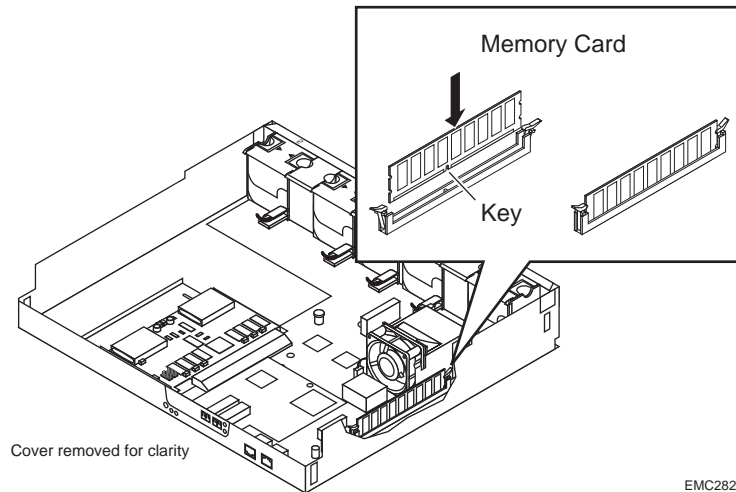

FIGURE 26. Connecting the Memory Card to the Motherboard
- c. Carefully push the memory card straight down into the connector (Figure 26). When the card is properly seated into the connector, the release latches snap into place, securing the connection.